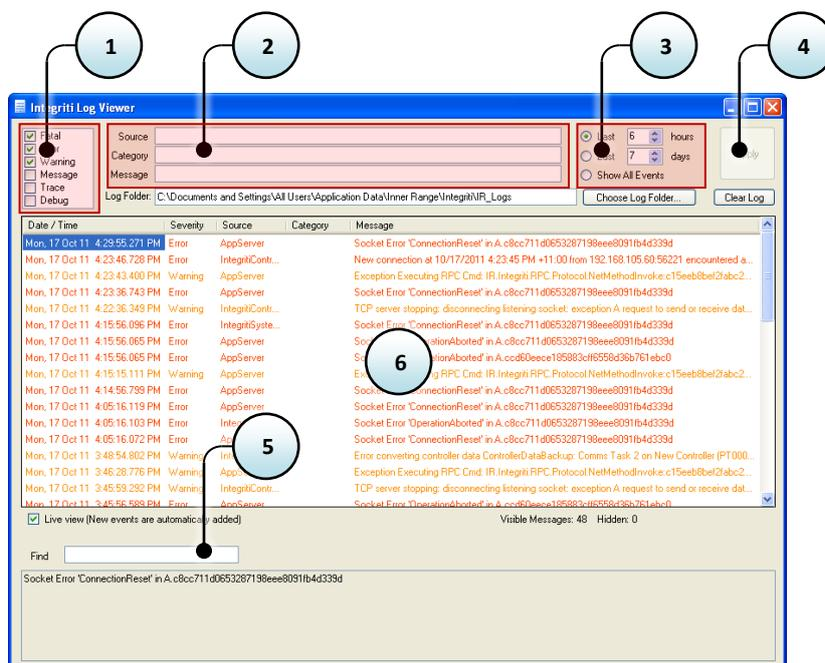

Figure 32
1. Ensure the Error checkbox is ticked. Un-tick the other checkboxes. (*Figure 32*)